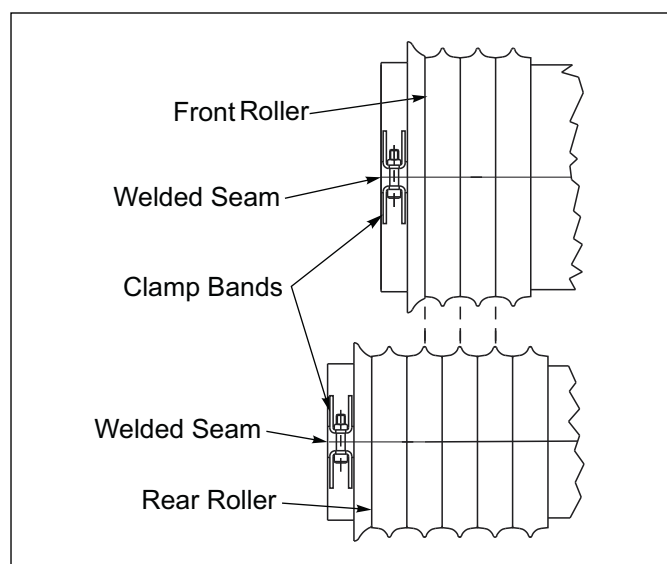

Figure 4-3: Clamp Bands
3. Slide the Clamp Band against the End Wheel on each end of the Roller and tighten the Clamp Band Bolt to 75 Ft-Lbs. **See Figure 4-3.**